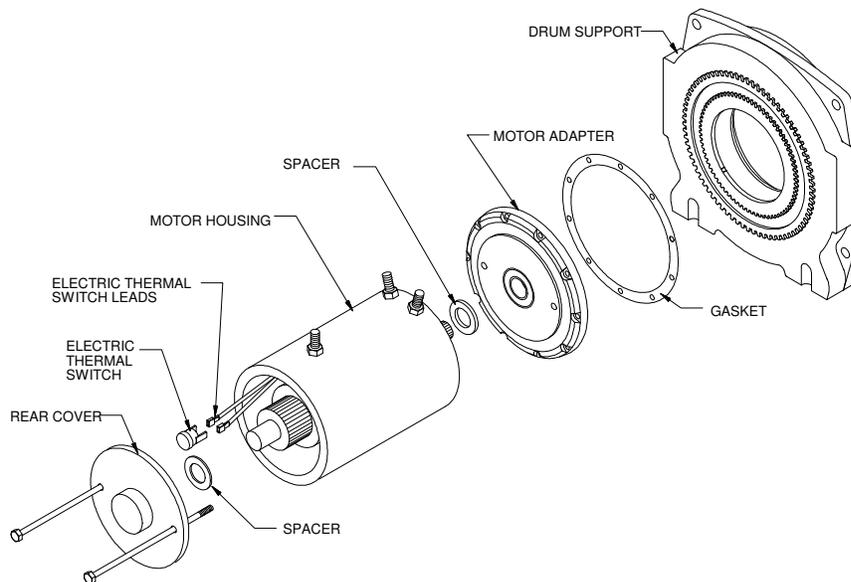

Figure 2.12
9. Remove motor and gasket from drum support assembly (*Figure 2.12*).
5. Connect thermal switch to two electric thermal switch leads (*Figure 2.12*). **IMPORTANT:** Always check for a short circuit after replacing the thermal switch. Touch one multimeter probe to a thermal switch terminal and the other probe to the motor case. Use the OHM setting on the meter. If there is a reading on the meter, then there is a short circuit. Check the connections, making sure that bare connections are not touching the motor housing. Insulate these connections with a small amount of silicone RTV or other insulating material. Re-check with the meter. If there is no reading, the circuit is OK.